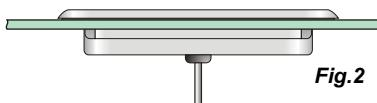

Fig.2
Your control system contains a Gas Heater Control Circuit Fig.2. This circuit is a passive or "dry contact" circuit, do not apply line voltage to this circuit. Connect this circuit to the gas heater's Fireman Switch or Fireman Circuit. Refer to the instructions provided with your gas heater to identify the circuit / switch and correct wiring connection. Additional programming may be required to the gas heater to utilize an auxiliary control system.
**Step 2** - Remove the double sided adhesive from the back of the spaside. Make certain the spaside is straight and adhere to the spa shell. (Fig.2)